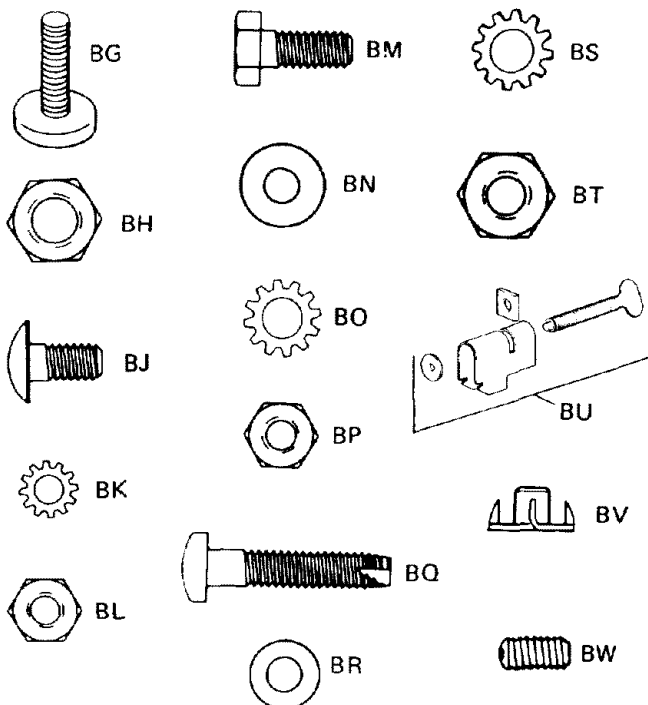

Fig. 13 - Truss Head Bolt, Lockwasher, Hex Nut
3. Most parts of your radial arm saw will be fastened together using truss head bolts, lockwashers, and hex nuts of the sizes shown. (Figure 13) When different sizes are needed, the instructions will include a sketch to help you locate the correct size.